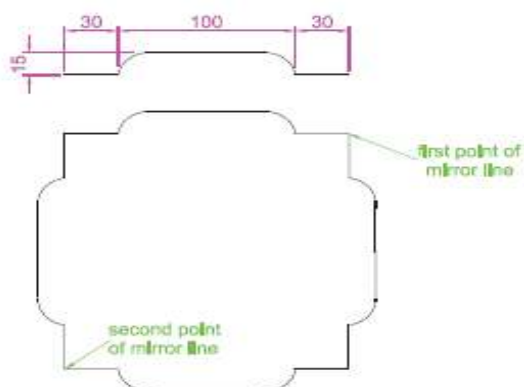

Fig. 5.10 Second example – Mirror
Second example – **Mirror** (Fig. 5.10)
1. Construct the outline shown in the dimensioned polyline in the upper drawing of Fig. 5.10 .
The two points shown in Fig. 5.10 are to mirror the right-hand side of the outline.